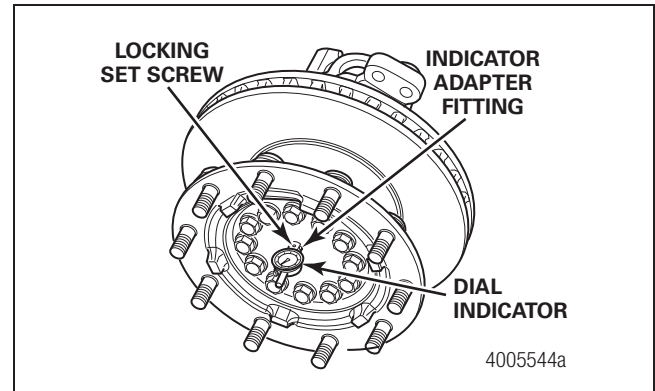

Figure 3.3
6. Attach the dial indicator. Loosen the locking set screw and slowly slide the dial indicator through the fitting hole. Position the dial indicator against the hub face and tighten the locking set screw as the needle starts moving. Set the dial indicator to ZERO. Do not rotate the wheel end. Figure 3.3.